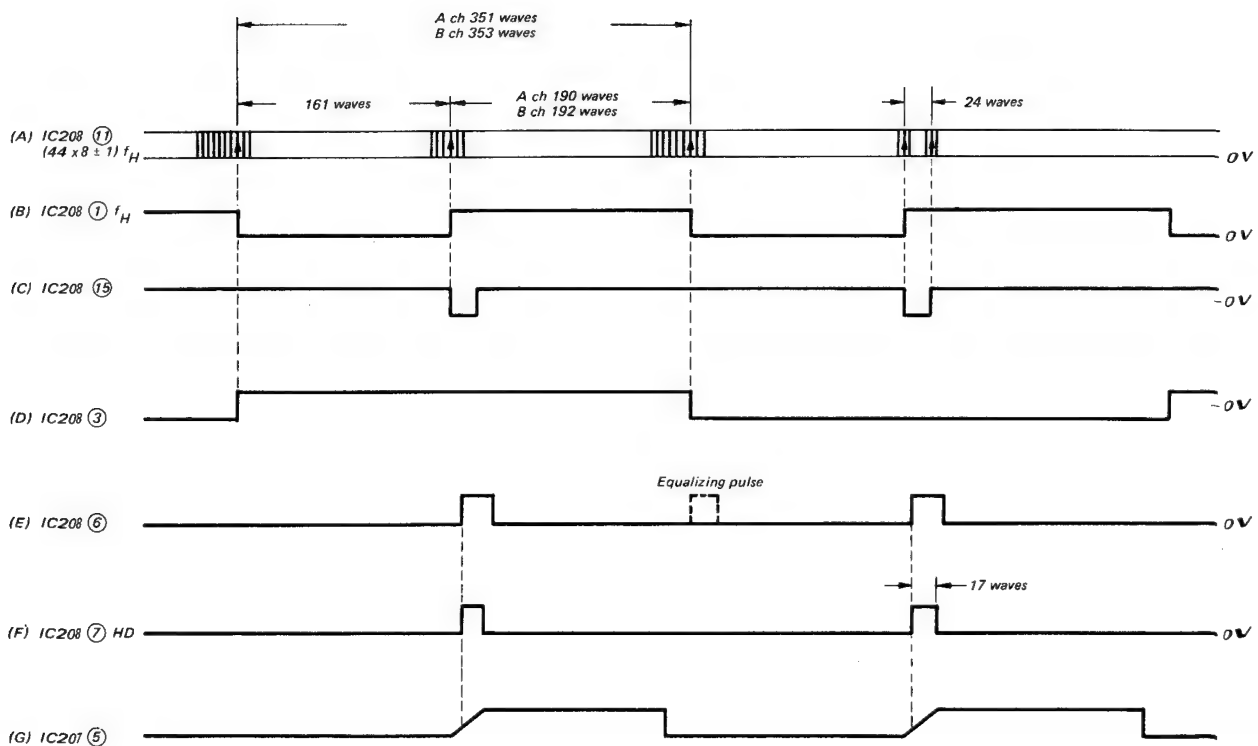
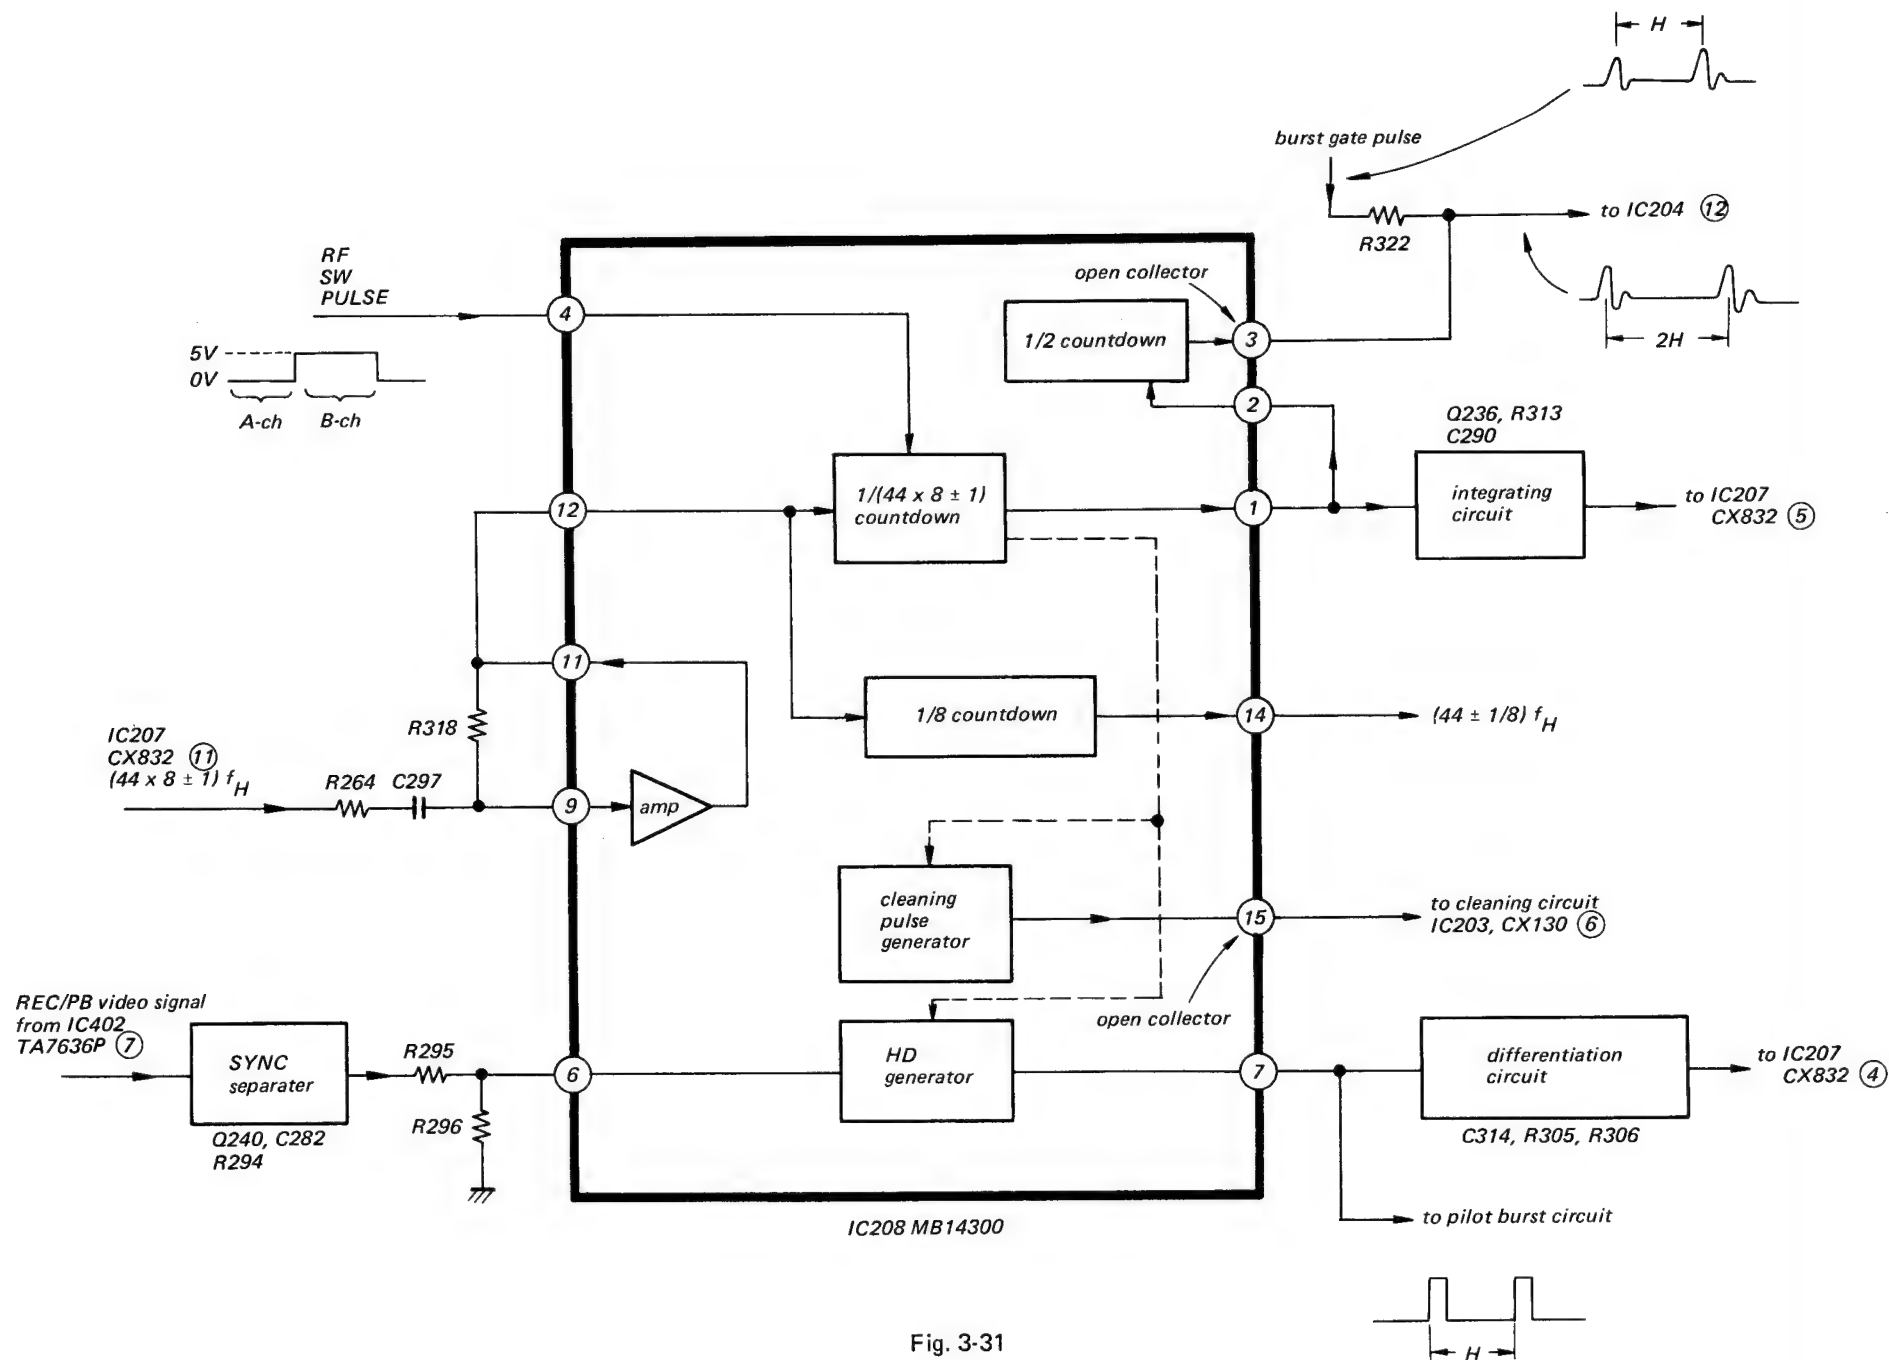

Fig. 3-30
Fig. 3-31
Block diagram is shown in Fig. 3-31 and Timing chart is shown in Fig. 3-30.
The output signal from pin 11 of IC208 (waveform is shown in Fig. 3-30 (A)) is fed to the 1/(44 × 8 ± 1) countdown stage through pin 12.
The output of the countdown circuit which waveform is shown in Fig. 3-30(B) is fed to AFC detector through the integrator (waveform is shown in Fig. 3-30(E)).
The output of sync separator of which waveform is shown in Fig. 3-30(E) is fed to pin 6 of IC208, HD pulse generator where the equalizing pulses are removed and HD pulse (3μs) is output from pin 7 of IC208. (waveform is shown in Fig. 3-30(F))
The pilot burst cleaning pulse is output from pin 15 of IC208. (waveform is shown in Fig. 3-30 (C)).